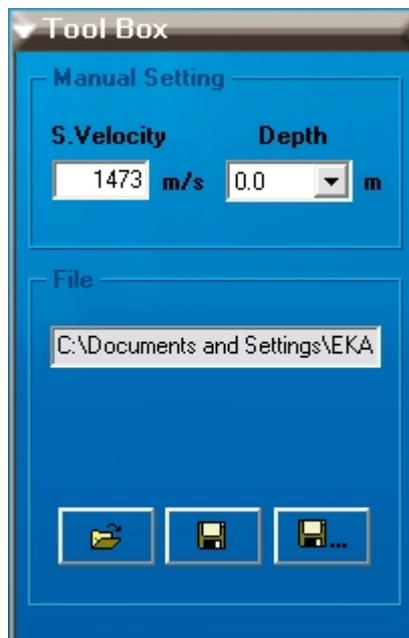

Figure 40 – Sound Velocity Toolbox
| 1. | Select the S/Velocity tab under Mission menu in the toolbox (see Figure 40), type in the S.Velocity value for each immersion depth appearing in the Depth field. Validate each sound velocity input by pressing the [enter] key. |
1.	Select the S/Velocity tab under Mission menu in the toolbox (see Figure 40), click on  button to import a file.  The Open... window appears.